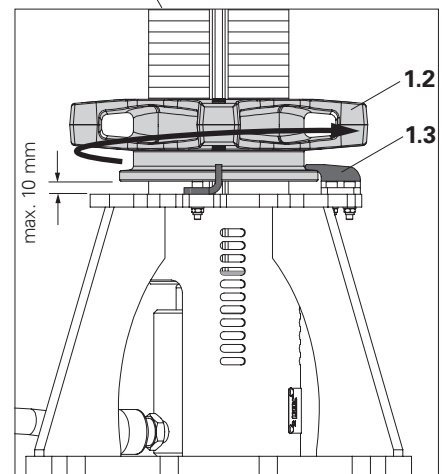

Fig. A5.06b
4. Turn the adjusting nut upwards by hand in an anticlockwise direction until the adjusting nut is resting against the hold-down device (**1.3**). (Fig. A5.06b)